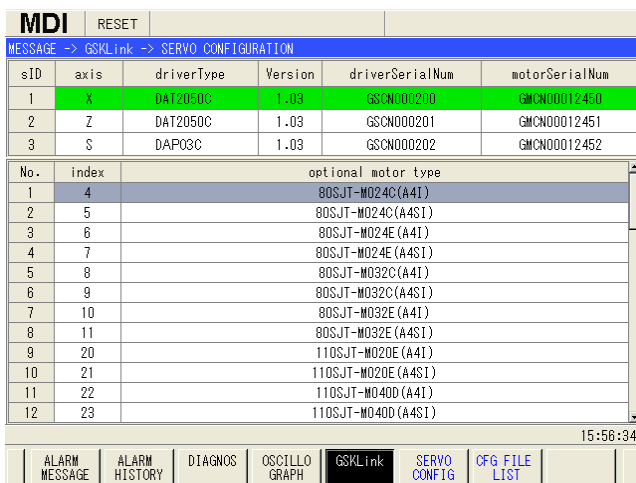

Fig. 1
- Press key MESSAGE to enter to information screen, then press GSKLink → SERVO CONFIG to enter to slave configuration page; shown in Fig.1;